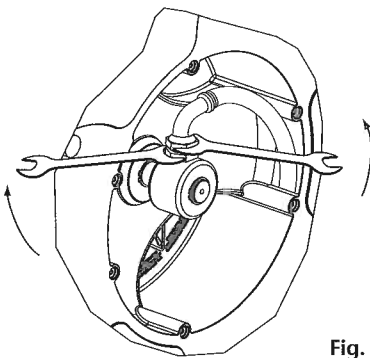
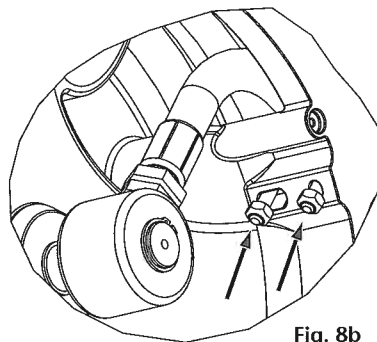

Fig. 8a
Fig. 8b
- Fix the hose to the swivel as indicated in figure 8a and fix the U bolt as shown in figure 8b.
- Disconnect the hose as shown (fig.8a). Release the hose from the disk by removing the clamp (fig.8b).
- Desconectar la manguera usada según se indica en la imagen (fig. 8a) y liberar la manguera del disco retirando el abarcón de fijación manguera (fig. 8b).